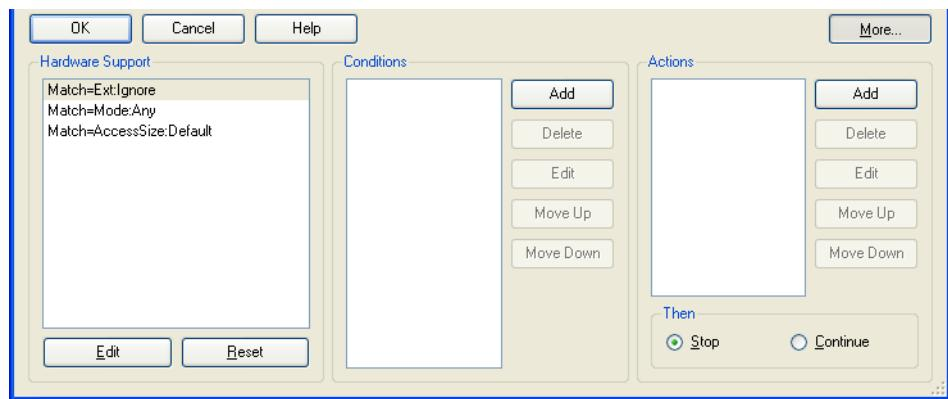

Figure 12-9 Breakpoint behavior controls
2. Click **More...** on the breakpoint dialog box you are using. The breakpoint behavior controls are displayed. Figure 12-9 shows an example:
2. Click **More...** on the breakpoint dialog box you are using. The breakpoint behavior controls are displayed. Figure 12-9 on page 12-10 shows an example.